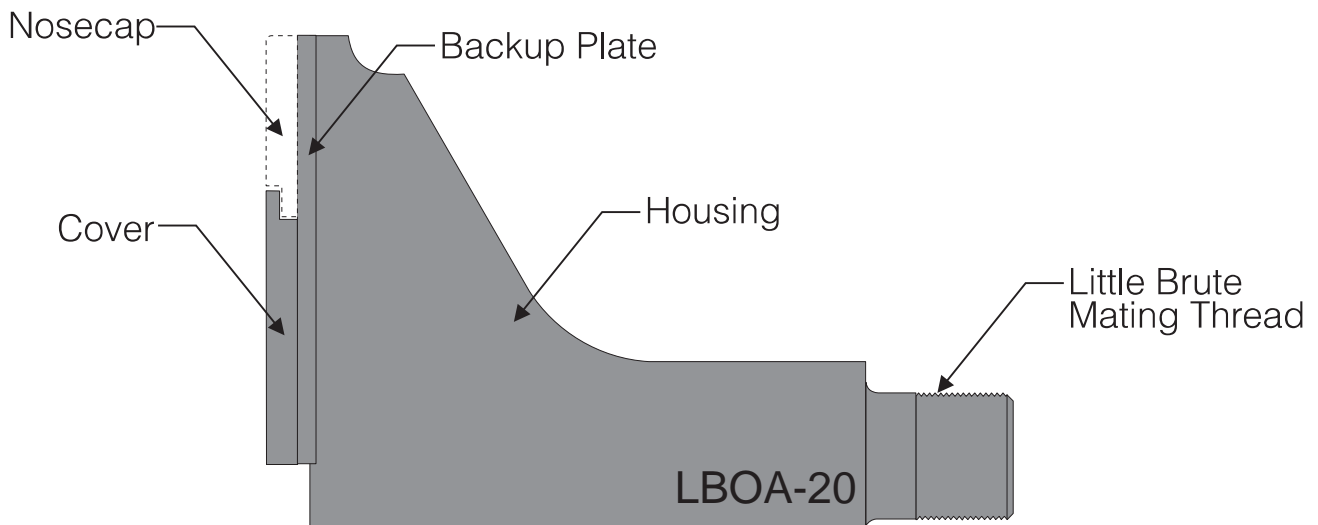
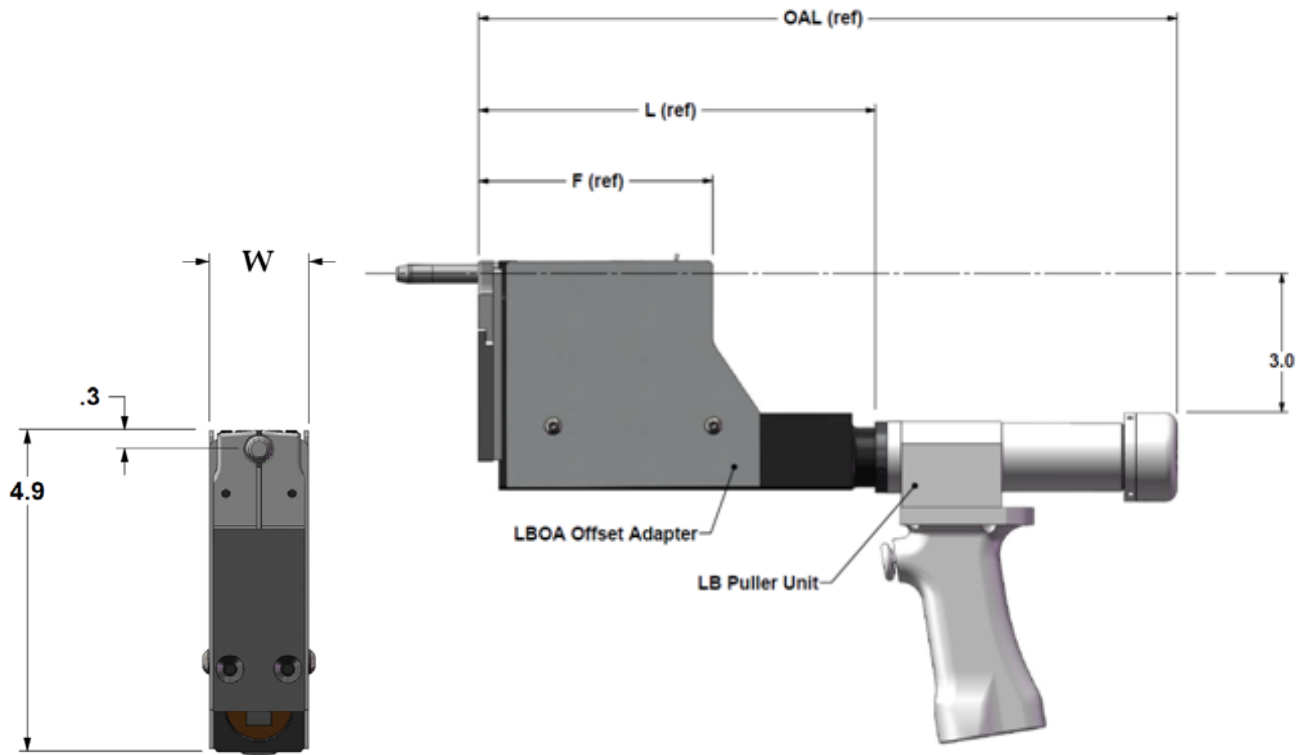

Figure 1-2
Figure 3-1
- Attaches to the Little Brute (LB) series of puller units. See Little Brute Puller Manual for additional safety information.
- Requires only 0.300" lateral clearance (see Figure 3-1).
2. Little Brute Offset Adapter without Finger Guard (shown in Figure 1-2). These are available by the LBOA-xx model number and offer access to more restricted areas (see Figure 3-1).
See Figure 3-1.
Disconnect the LB Puller Unit (Figure 3-1) from the PowerPak before attaching the LBOA.